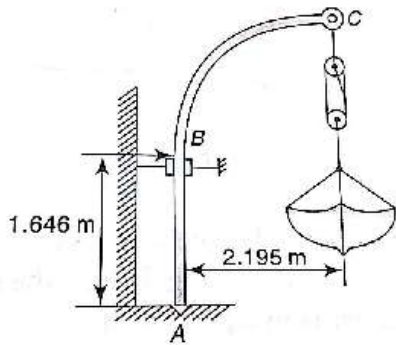

Figure 2.9
10. A boat is suspended on two identical davits like ABC which is pivoted at A and supported by a guide at B (Figure 2.9). Determine the reactions R_A and R_B at the points of support A and B if the vertical load transmitted to each davit at C is 4272 N. Friction in the guide at B should be neglected.